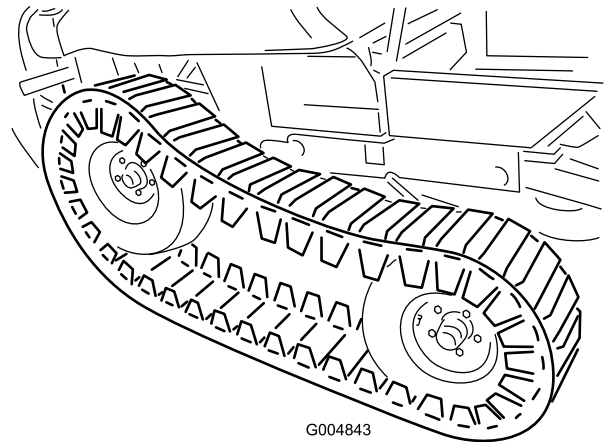

Figure 48
21. Adjust the floor jack to a suitable height to install the front tire. With a helper, lift the front of the track enough to carefully install the front tires (Figure 48).